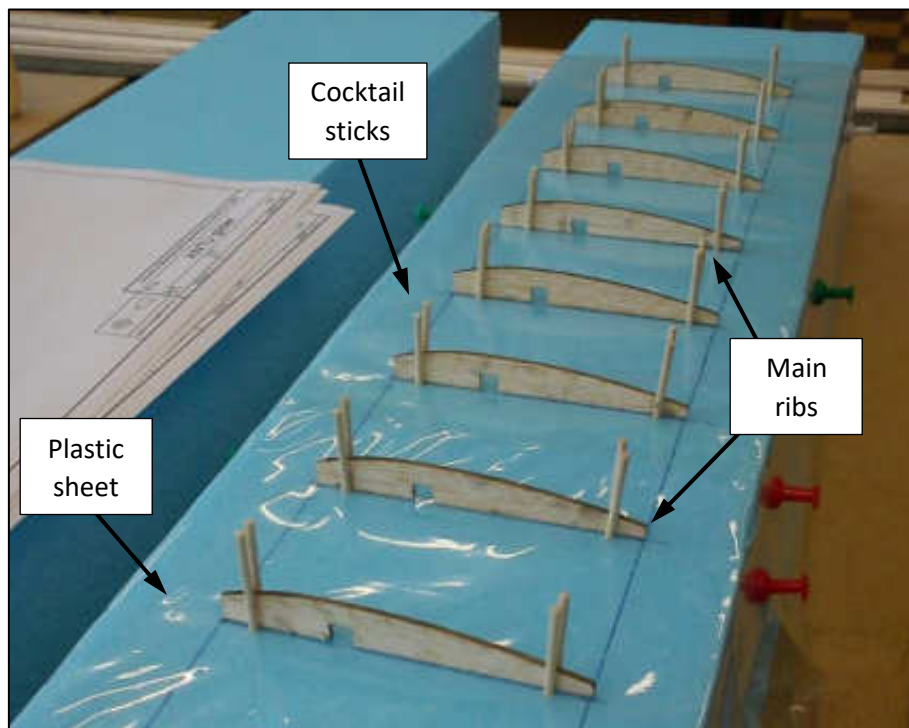

Figure 2: Positioning the wing ribs.
2. Lay a piece of clear plastic sheet over the Styrofoam. Using cocktail sticks, position the main ribs as shown in Figure 2.